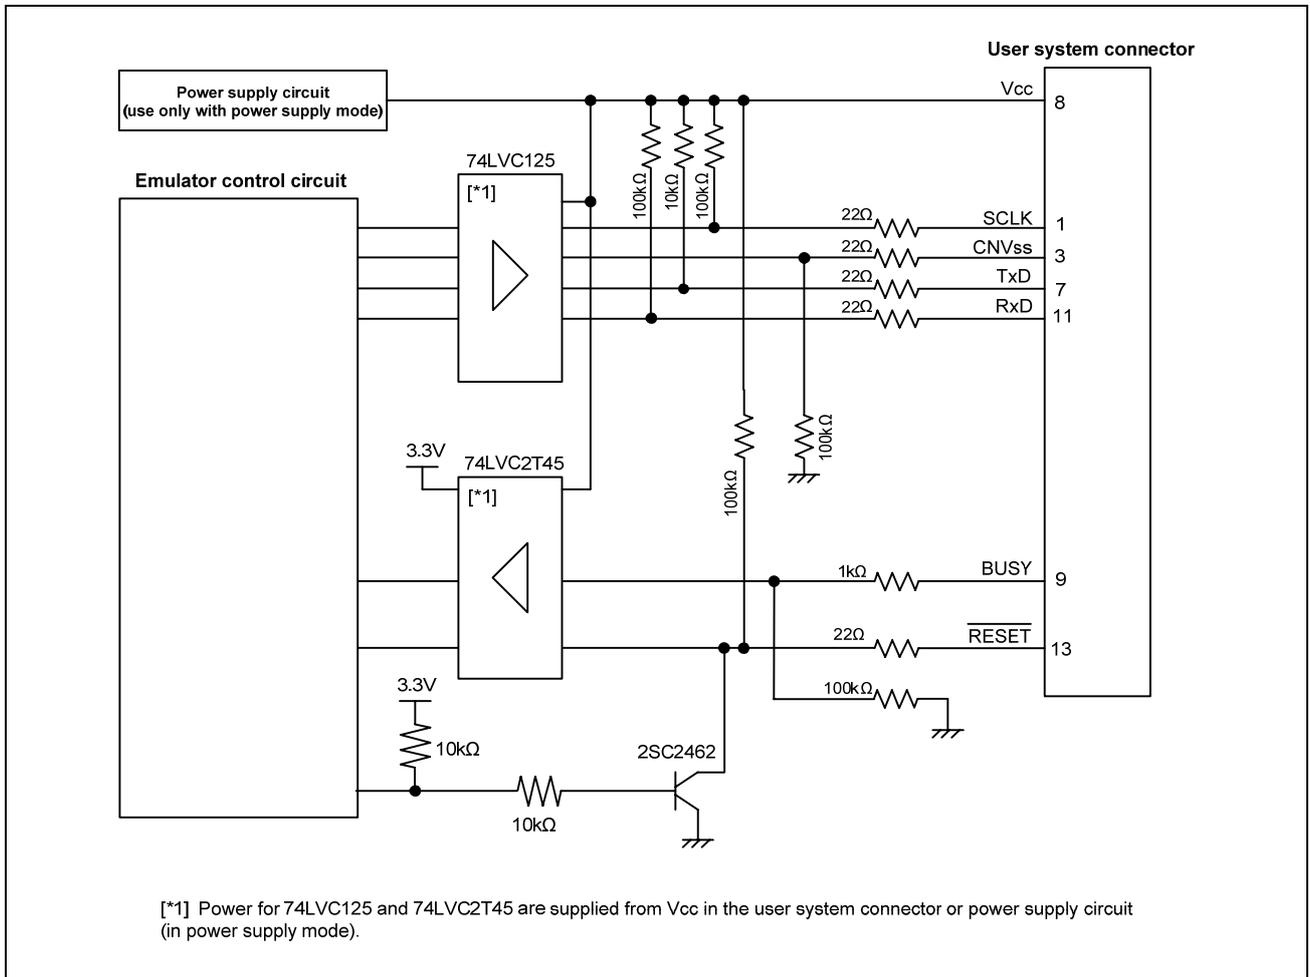

Figure 5.13 Interface Circuit inside the E8a Emulator (For Reference)
1. Pins P40, P41, P42 and P43 are used exclusively by the E8a emulator. Connect the E8a emulator to the MCU pins. For P41, pull up an MCU pin and then connect it to the emulator. Pull up or down on P40, P42 and P43 according to the MCU pin state after disconnecting the E8a emulator. P43 may be in a Hiz state while the E8a emulator is active. Therefore, set the pin resistance value so the voltage cannot be at the midpoint potential, depending on the voltage dividing of the resistance inside the E8a emulator (Figure 5.13).
1. Pins P30, P31, P32 and P33 are used exclusively by the E8a emulator. Connect the E8a emulator to the MCU pins. For P32, pull up an MCU pin and then connect it to the emulator. Pull up or down on P30, P31 and P33 according to the MCU pin state after disconnecting the E8a emulator. P30 may be in a Hiz state while the E8a emulator is active. Therefore, set the pin resistance value so the voltage cannot be at the midpoint potential, depending on the voltage dividing of the resistance inside the E8a emulator (Figure 5.13).
1. Pins P44, P45, P46 and P47 are used exclusively by the E8a emulator. Connect the E8a emulator to the MCU pins. For P45, pull up an MCU pin and then connect it to the emulator. Pull up or down on P44, P46 and P47 according to the MCU pin state after disconnecting the E8a emulator. P47 may be in a Hiz state while the E8a emulator is active. Therefore, set the pin resistance value so the voltage cannot be at the midpoint potential, depending on the voltage dividing of the resistance inside the E8a emulator (Figure 5.13).
Figure 5.13 shows the interface circuit in the E8a emulator. Use this figure as a reference when determining the pull-up resistance value.